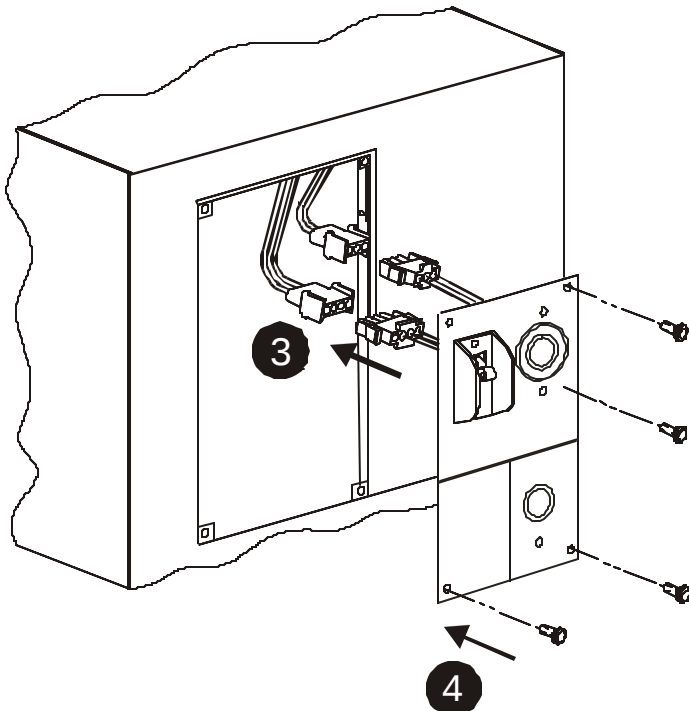

Figure 3.2 Installing Replacement Panel
3. Remove new PDU from it's box and install the new PDU by first reconnecting the connectors as shown in Fig. 3.2.